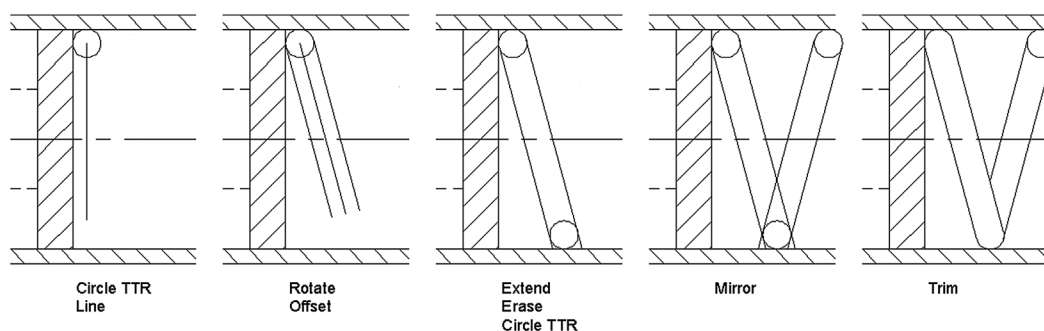

FIGURE 8.31 Drawing the spring.
Step 11. Now, how do you do the spring? Well, this is where the Circle/TTR comes in. Although we have not practiced this version of the circle command, it is very simple to do. Start it up and select the TTR option. Then, pick the vertical and the horizontal lines where the circle needs to go (seen in Fig. 8.31) and specify a radius (0.10"). One way of proceeding is to draw a straight arbitrary line down from the center of that circle, rotate the line 15° about that center point, then offset 0.1" in each direction, erase the original line, extend the two new ones to the bottom (if necessary), and repeat the process, as seen in Fig. 8.31. Once a set is done, you can mirror the rest and trim carefully to create the impression of a coiled spring.